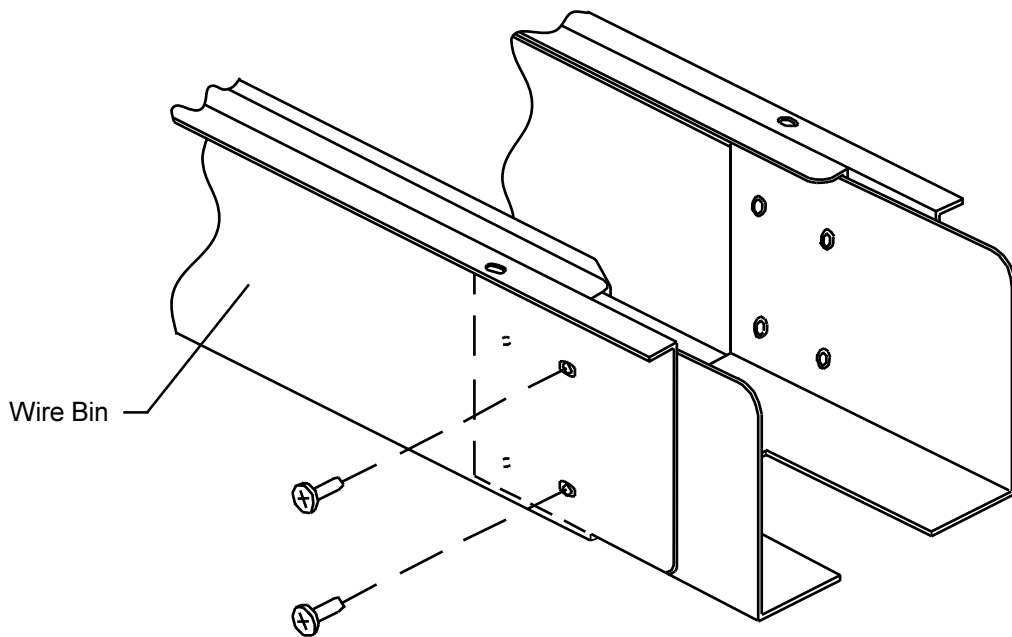

**Figure 4**
Position wire bin with the work surface mounting flanges facing up and the Electrical Mounting Bracket(s) located toward back edge of work surface. Slide the end caps with the smaller notched cutout in first. (See Figure 4).
Temporarily install both end caps with (2) each 1/4-20 screws (snug fit-not tight) into the "pre assembly" mounting holes (See Figure 4).
From underneath the carrel (Figure 9), loosen and remove the (2) 1/4-20 screws from the end cap "pre assembly" mounting holes on both ends of the wire bin. Slide the end caps outward to the "final assembly" mounting holes (Ref: Figure 4) and reinstall the (2) 1/4-20 screws to secure each end cap (See Detail H).